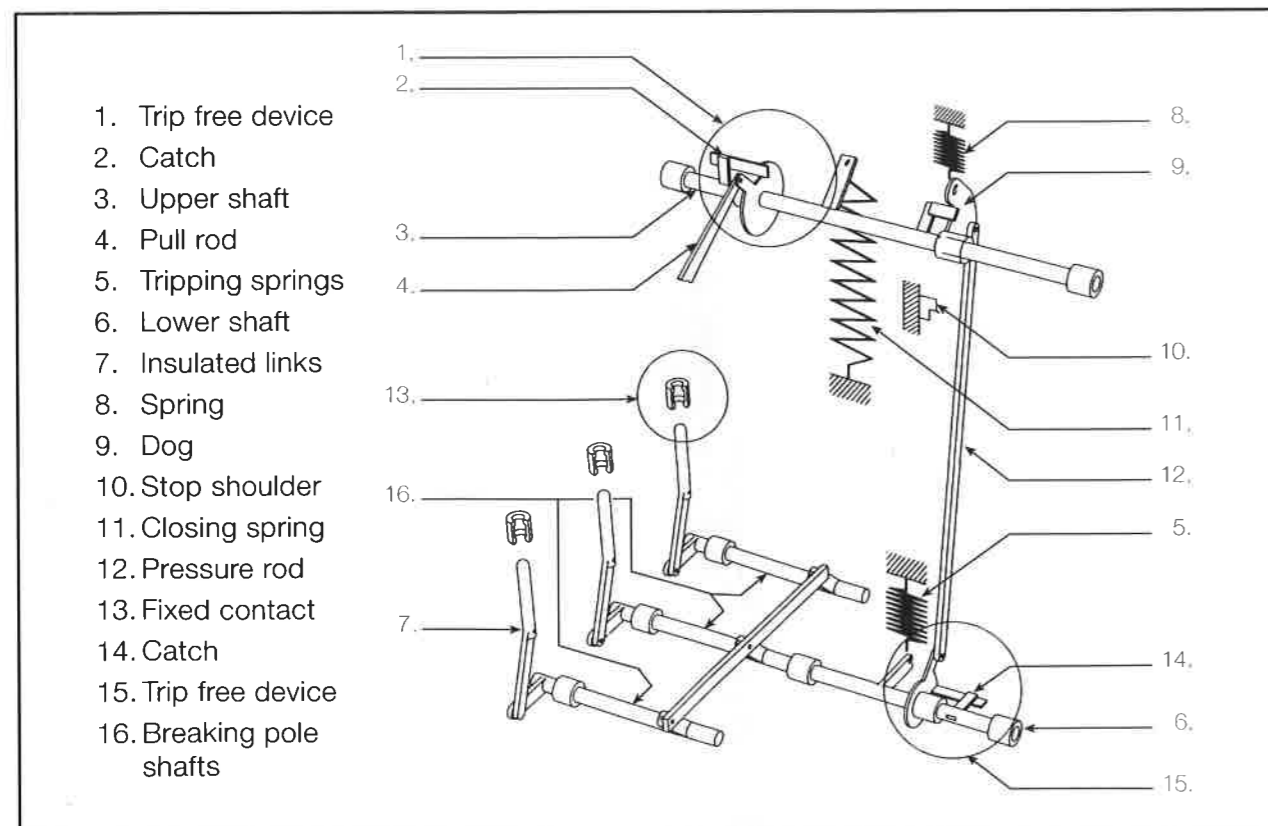

Fig. 4. Design of operating device, elementary diagram. Tripped.
Fig. 4 shows an elementary diagram of the operating device's design. The spring tensioning device has two shafts. The lower of these (6) is connected to the breaker shaft and is directly actuated by the tripping spring (5). The upper shaft (3) is linked directly to the closing spring (11). These two shafts are linked together via the dog (9) and the pressure rod (12) as well as the trip free device (15). The upper shaft is also linked to the tensioning device via the trip free device (1) and the pull rod (4).
Fig. 4 shows the operating device in the Open position. The
Upon tripping, the catch (15) is released and thereby the breaking pole shafts (16) as well, which via the insulated links (7) actuate the contacts and a break is effected. The spring (8) returns the pressure rod (12) with its dog to its previous position and the operating device again takes up the position shown in Fig. 4.